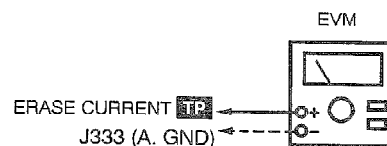

Fig. 9
1. Connect the measuring instruments as shown in Fig. 9.